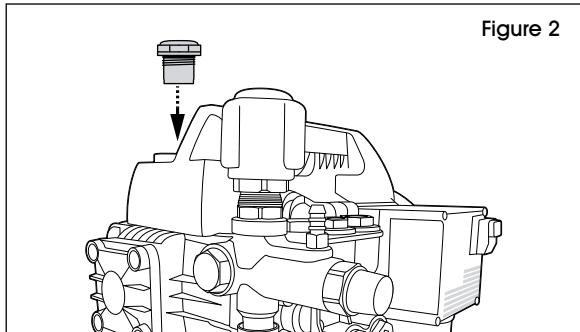

Figure 2
2. Replace with yellow vented oil cap found in accessory bag. (See Figure 2)